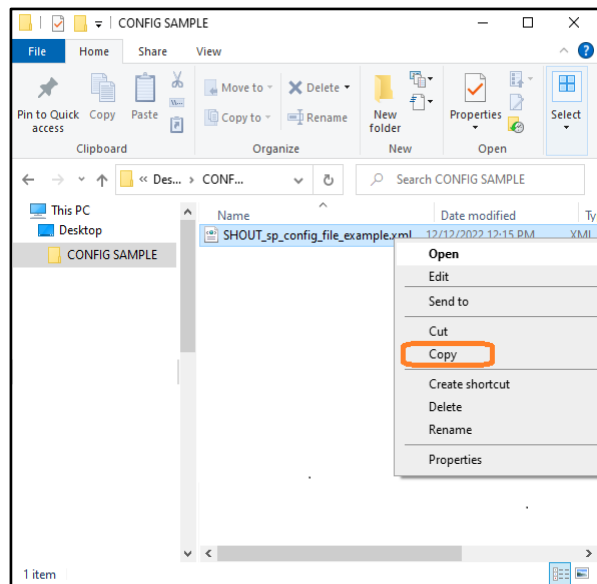

Figure 84: Copy the XML file
A popup menu displays (see **Figure 84**).
10. Select **Copy** (see **Figure 84**).